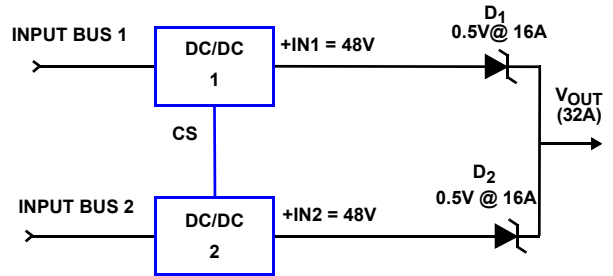

FIGURE 29. 1 + 1 REDUNDANT SYSTEM WITH DIODE ORING
For example, in a 48V, 32A (1 + 1) redundant system with current sharing, using a Schottky diode as the ORing device (Refer to Figure 29), the forward voltage drop is in the 0.4V to 0.7V range, (let us assume it is 0.5V). The power loss across each diode is shown in Equation 10:
- In the particular cases illustrated in the previous examples of Figures 29 and 30 with $N = 1$, each of the two ORing feeds have to be able to handle the full load current.